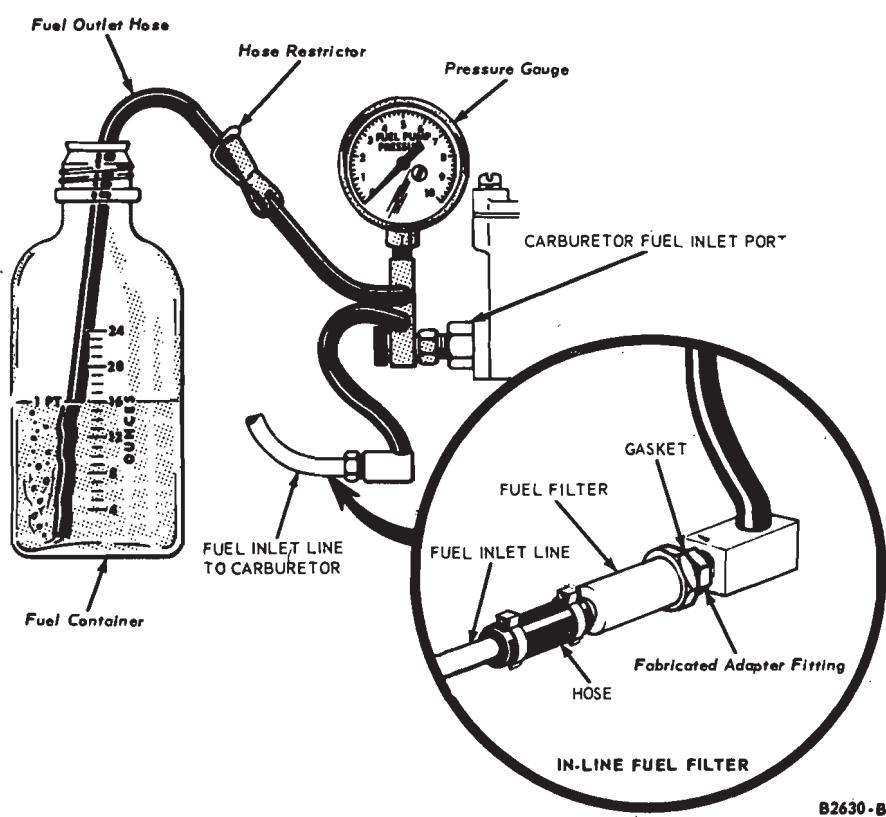

FIG. 4—Typical Fuel Pump Pressure and Capacity Test Equipment
2. Connect a pressure gauge, a restrictor and a flexible hose (Fig. 4)
3. Position the flexible hose and the restrictor so the fuel can be discharged into a suitable, graduated container (Fig. 4).
2. Open the hose restrictor and allow the fuel to discharge into the graduated container (Fig. 4) for the specified time; then close the restrictor. At least one pint of fuel should have been discharged within the specified time limit.